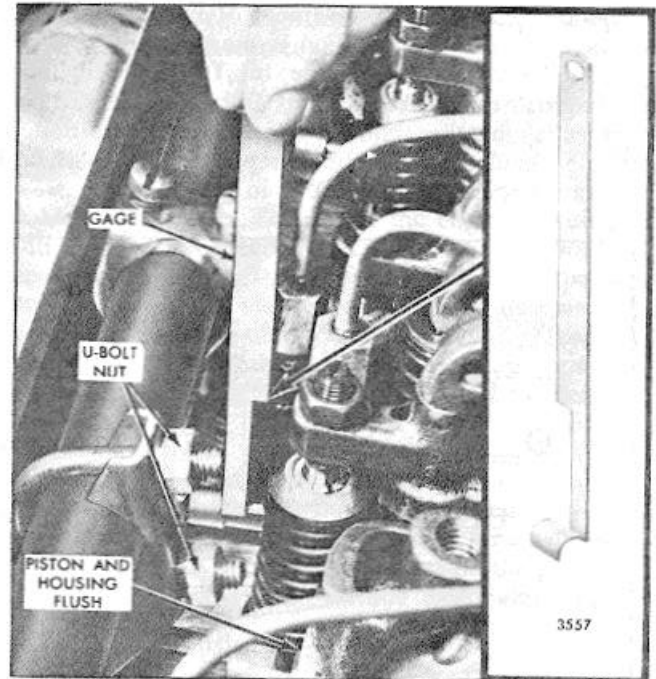

FIG. 5 Adjusting Throttle Delay Cylinder (Former)
1. Refer to Fig. 5 and insert gage J 23190 (.454" setting) between the injector body and the shoulder on the injector rack. Then exert a light pressure on the injector control tube in the direction of full fuel.